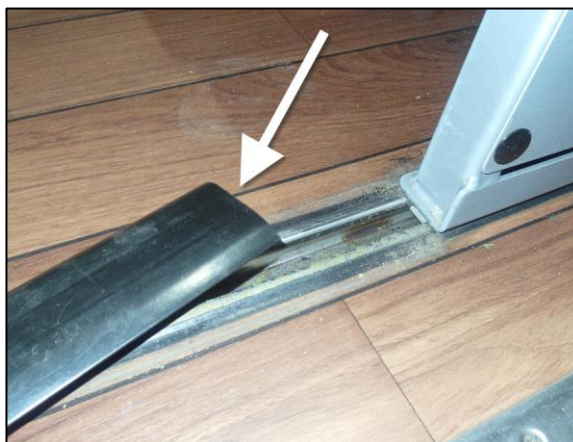

FIGURE 3
4. Remove rail cover in front of the seat pedestal (Figure 3). It is only snapped on the rail. Use a flat screw driver at one end and lift progressively the cover.